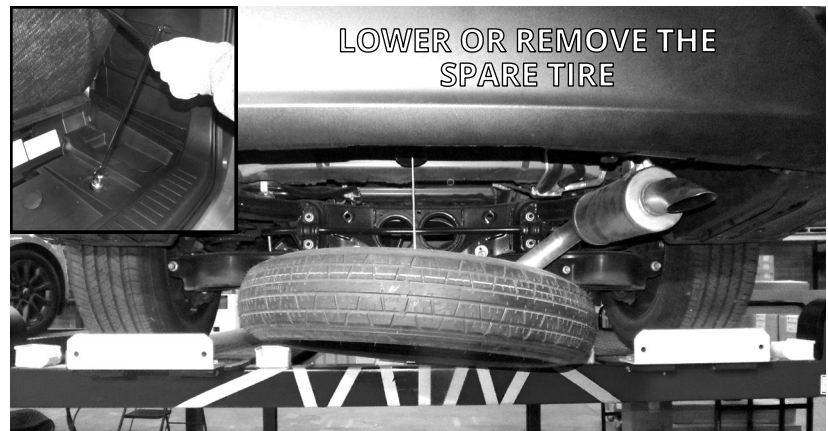

FIGURE A1: VIEW UNDER THE REAR OF THE VEHICLE
1. During installation, the spare tire may be in the way and should either be removed or lowered approximately 2 feet, see Figure A1. Refer to the vehicle's user manual for specific instructions on tire removal.